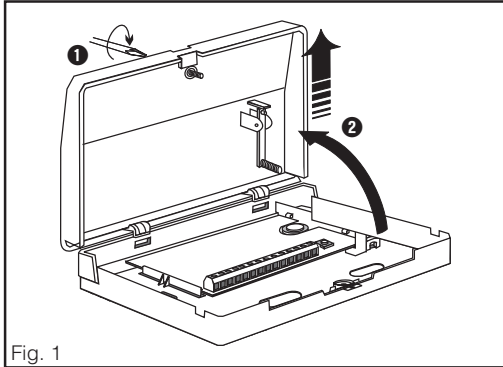

Fig. 1
3.1 Open housing (fig. 1)
- 1 - Engage the cover in the retainer at the top (fig. 1).
- 2 - Close the cover and tighten the retaining screw (fig. 1).